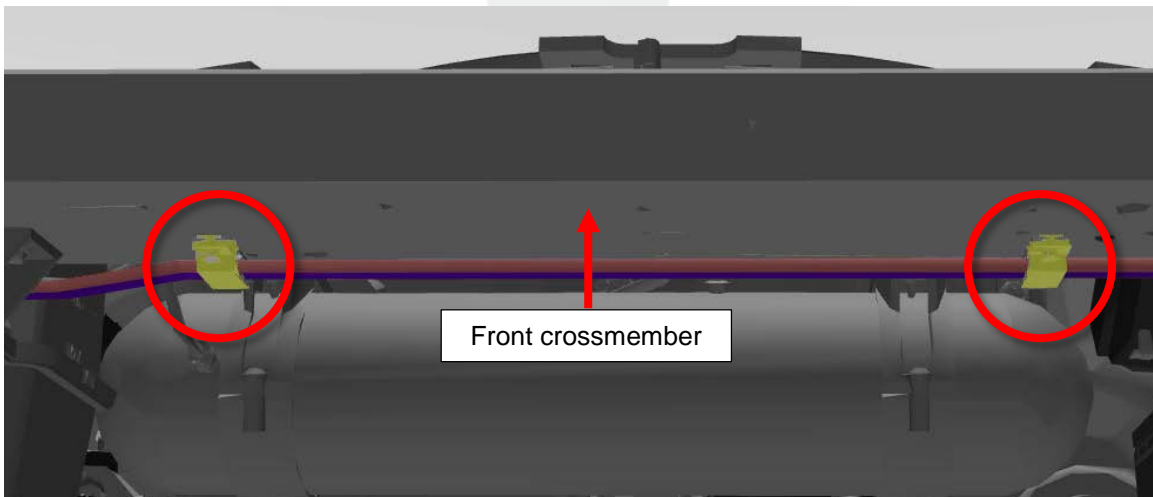

Figure 2
4. Ensure that the 2 clips that secure the brake lines to the bottom of the front crossmember are fully seated (Figure 2).